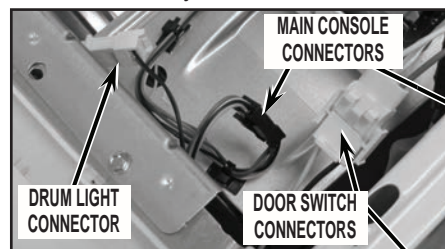
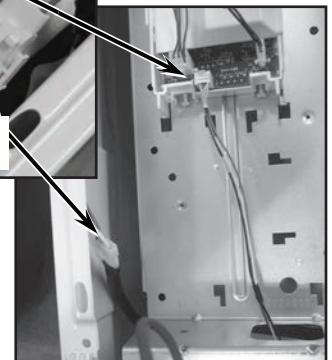

FIGURE 4A
FIGURE 4B
5. Disconnect drum light and main console connectors as shown in *Figure 4A* located on the top right front side of dryer or *Figure 4B* top left front side of dryer. Lift up on console and tilt assembly forward to remove console.